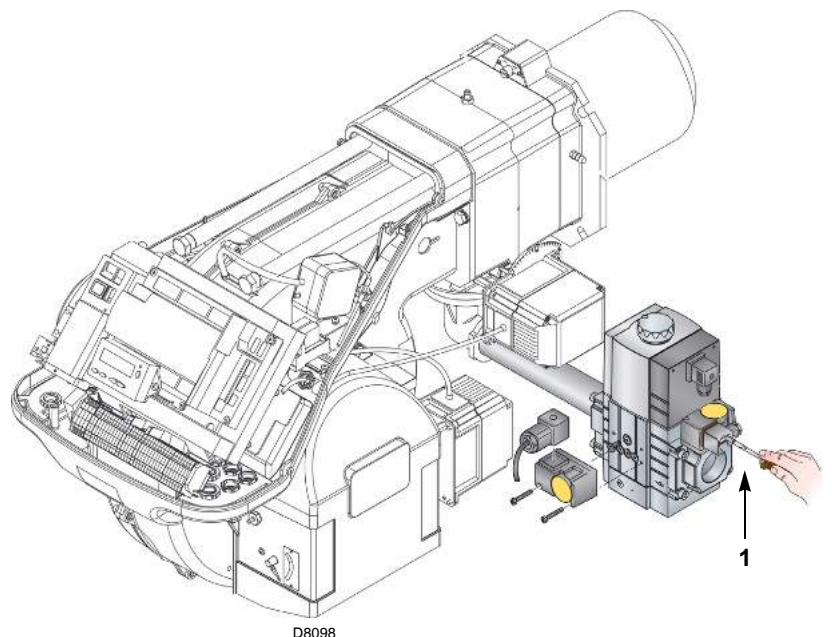

Fig. 27
- Check the gas supply pressure by connecting a pressure gauge to the pressure test point 1) (Fig. 27) of the minimum gas pressure switch: it must be lower than the maximum allowed pressure of the gas train, as shown on the characteristics label.
- Bleed the air from the piping of the gas train, connecting a plastic tube to the pressure test point 1) (Fig. 27) of the minimum gas pressure switch. Take the vent tube outside the building so you can notice the smell of gas.